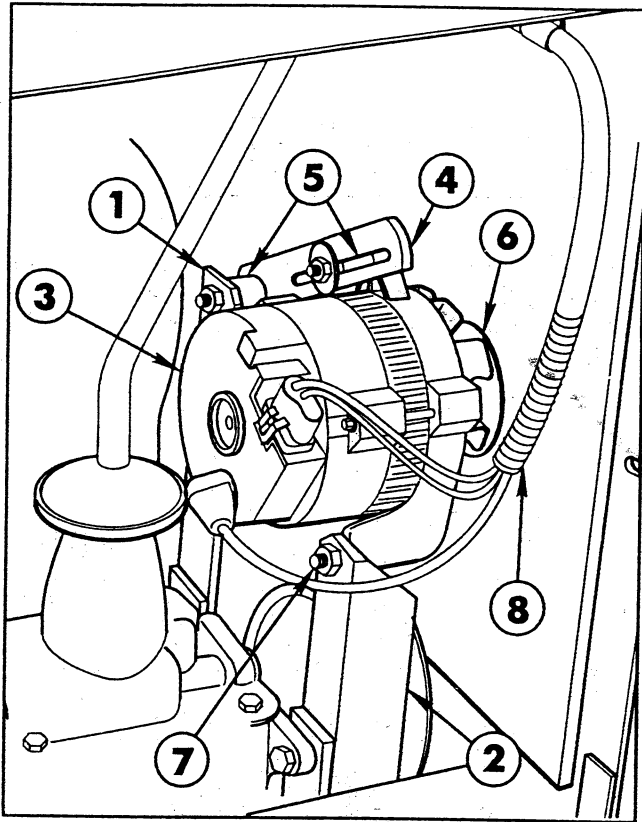

FIG. 3
5. Attach the longest Alternator Mounting Strap to the Transmission's inner mounting screws as shown in FIG. 3. Reattach the Belt Guide and secure with lock washers and hex nuts removed in Step 3.
13. Install the Alternator Wiring Harness to the Alternator as shown in FIG. 3. Insert the plug end into the socket in the Alternator.